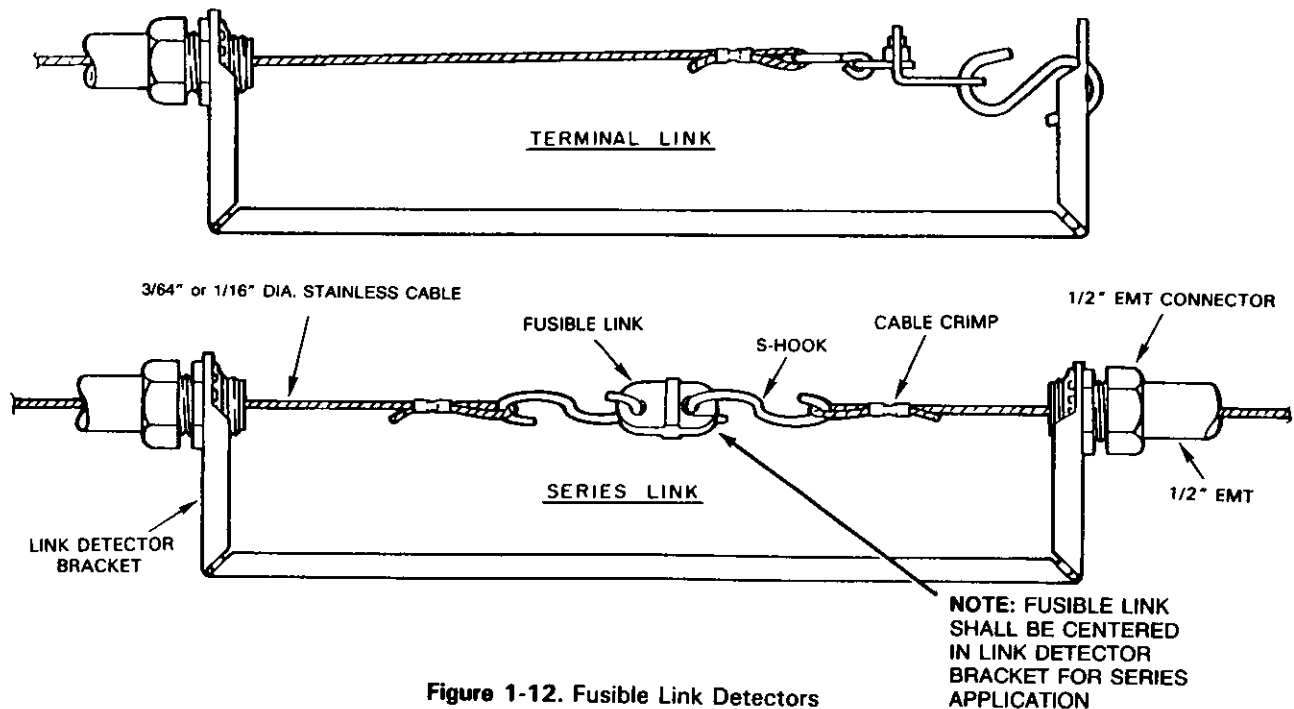

Figure 1-12. Fusible Link Detectors
3. Fusible Link Detector (Model FLK-1) — Fusible link type detectors are available in kit form and utilize a standard 350°F link. For temperatures higher than 350°F, fusible links with ratings of 500°F are available. Links are not included in the kit and must be ordered separately from Pyro Chem. (See Figure 1-12).